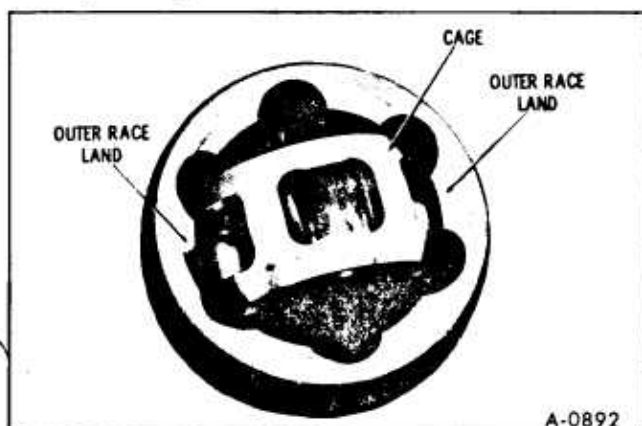
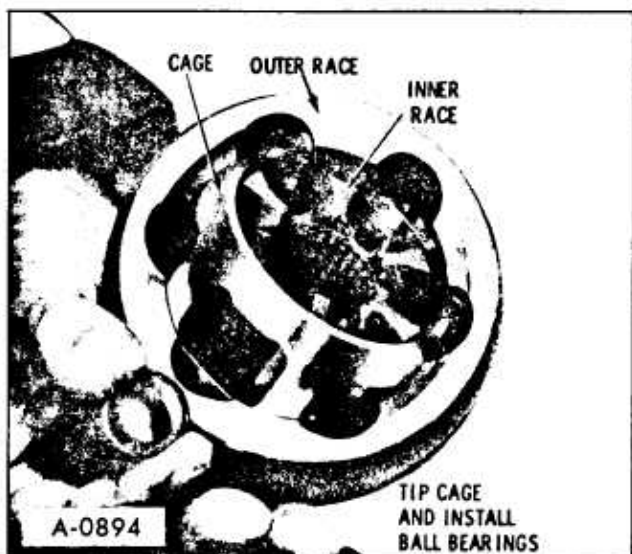

Figure 11-Positioning Cage
Figure 13-Installing Balls in Outer Race
11. Turn cage 90° and with slot in cage aligned with land in outer race lift out inner race and cage. (figure 11)
3. Insert cage and inner race into outer race by aligning windows on cage with lands on outer race. (figure 11) Pivot cage and inner race 90°, being certain that step on cage bore is positioned to inside of joint and snap ring groove in inner race is facing outside. (figure 13)
4. Insert balls into outer race one at a time by rocking assembly to each subsequent ball groove until all six balls are installed. (figure 13)